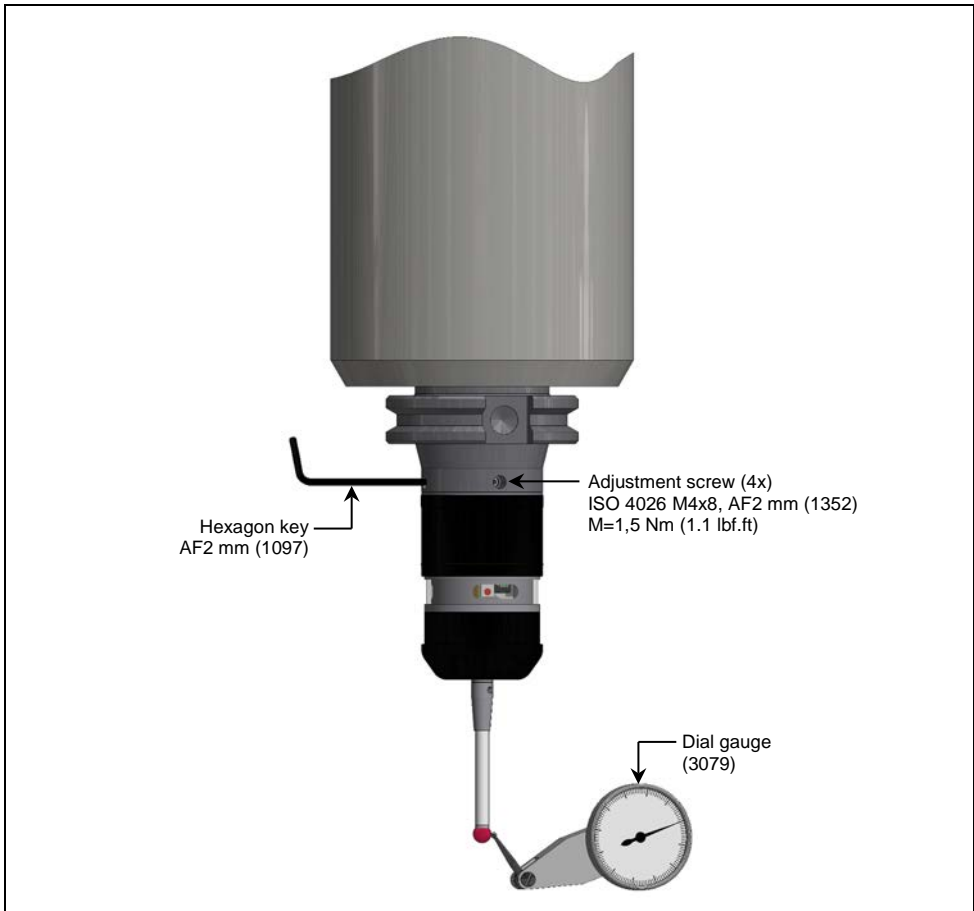

Fig. 9 Aligning stylus to spindle centre
1. Put the dial gauge lever onto the stylus ball (Fig. 9).
3. Adjust the probe with the 4 adjustment screws (Fig. 9) to within less than 5  $\mu\text{m}$ . Therefor always use two opposite adjustment screws to move the stylus centre to a specific direction.